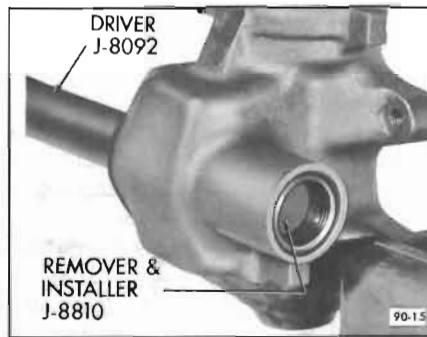

Figure 90-15—Installing Pitman Shaft Bushing
5. Inspect teeth of ball nut and pitman shaft for pitting or scoring which would require replacement of ball nut or pitman shaft. Inspect pitman shaft bushing in housing for excessive wear or scoring. If necessary, remove pitman shaft bushing and install a new bushing with Remover and Replacer J-8810 and Drive Handle J-8092. See Figure 90-15.